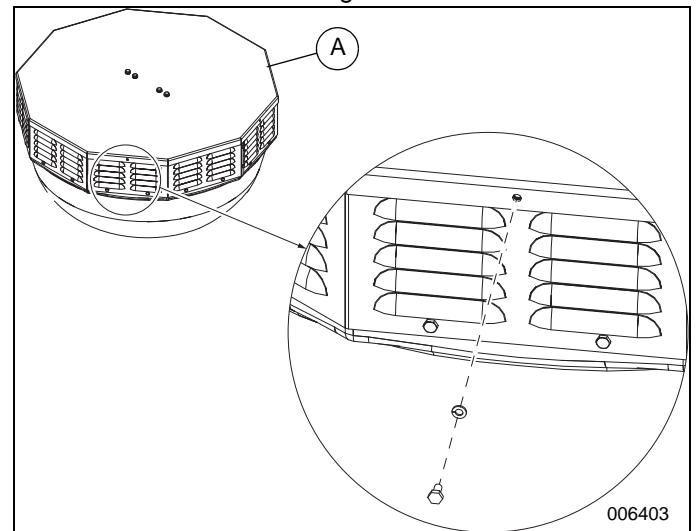

Figure 7. Hardware Removal—Side of Lid
2. See Figure 7. Obtain light fixture (A). Remove and retain hardware securing sides of lid.
- See **Figure 7**. Install hardware retained in step 2. Tighten to 75 in-lb (8.5 Nm).
- See Figure 7. On the light fixture, remove and retain hardware securing sides of lid.
- See Figure 7. Install hardware retained in step 2. Tighten to 75 in-lb (8.5 Nm).